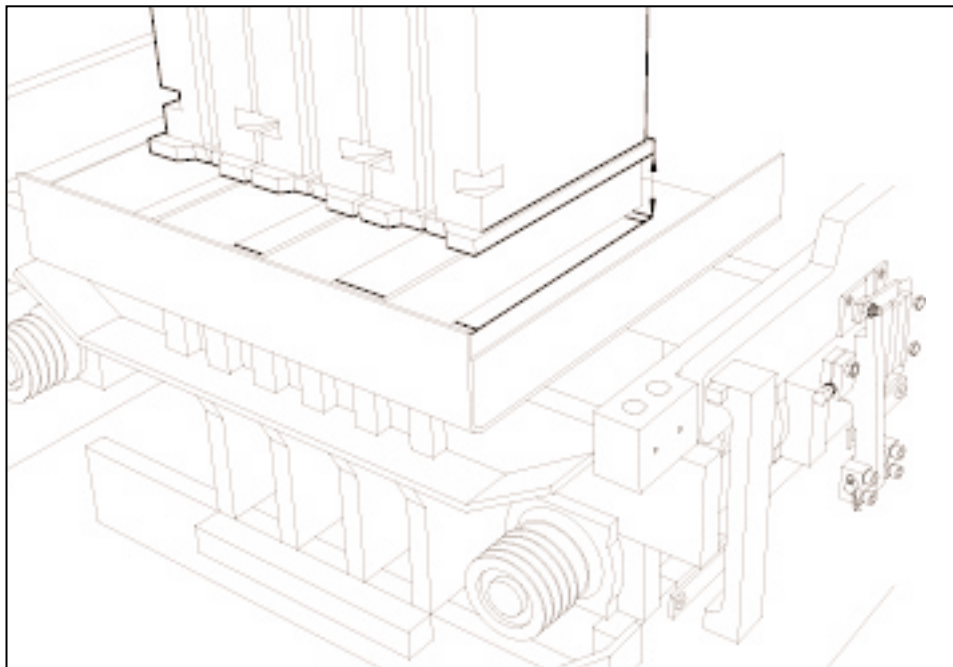

Figure 5.27 SHOES 4” [102MM] ABOVE MOLD.
5.7.3 Measure from bottom of shoe to top of mold end liners. Measurement should be approximately 4” [102MM] (see figure 5.27). Add dimension “C” to this measurement (dimension “C” is the amount of compression. For detailed explanations, see section 5.8).